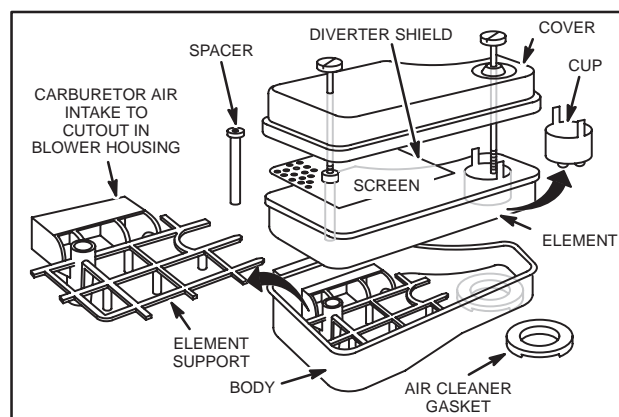

Fig. 121 – DUCTED OIL-FOAM® AIR CLEANER, VERTICAL CRANKSHAFT
1. Remove two (2) screws and lift off complete air cleaner.
5. Insert element support into body (when used, Fig. 121) and then place Oil-Foam® element into body. Make sure that lip of Oil-Foam® element extends over edge of body all the way around to assure a protective seal.
7. Place cover on air cleaner assembly with two (2) screws, Fig. 121.
8. Install air cleaner assembly on carburetor, Fig. 121.